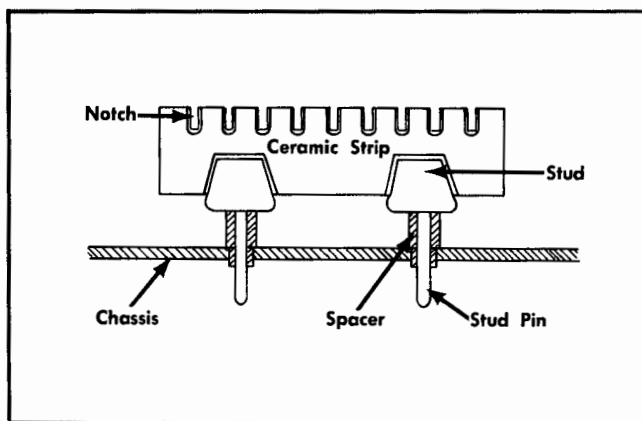

Fig. 4-5. Ceramic terminal strip assembly.
**Ceramic Terminal Strip Replacement.** A complete ceramic terminal strip assembly is shown in Fig. 4-5. Replacement strips (including studs) and spacers are supplied under separate part numbers. However, the old spacers may be re-used if they are not damaged. The applicable Tektronix Part Numbers for the ceramic strips and spacers used in this instrument are given in the Mechanical Part List.